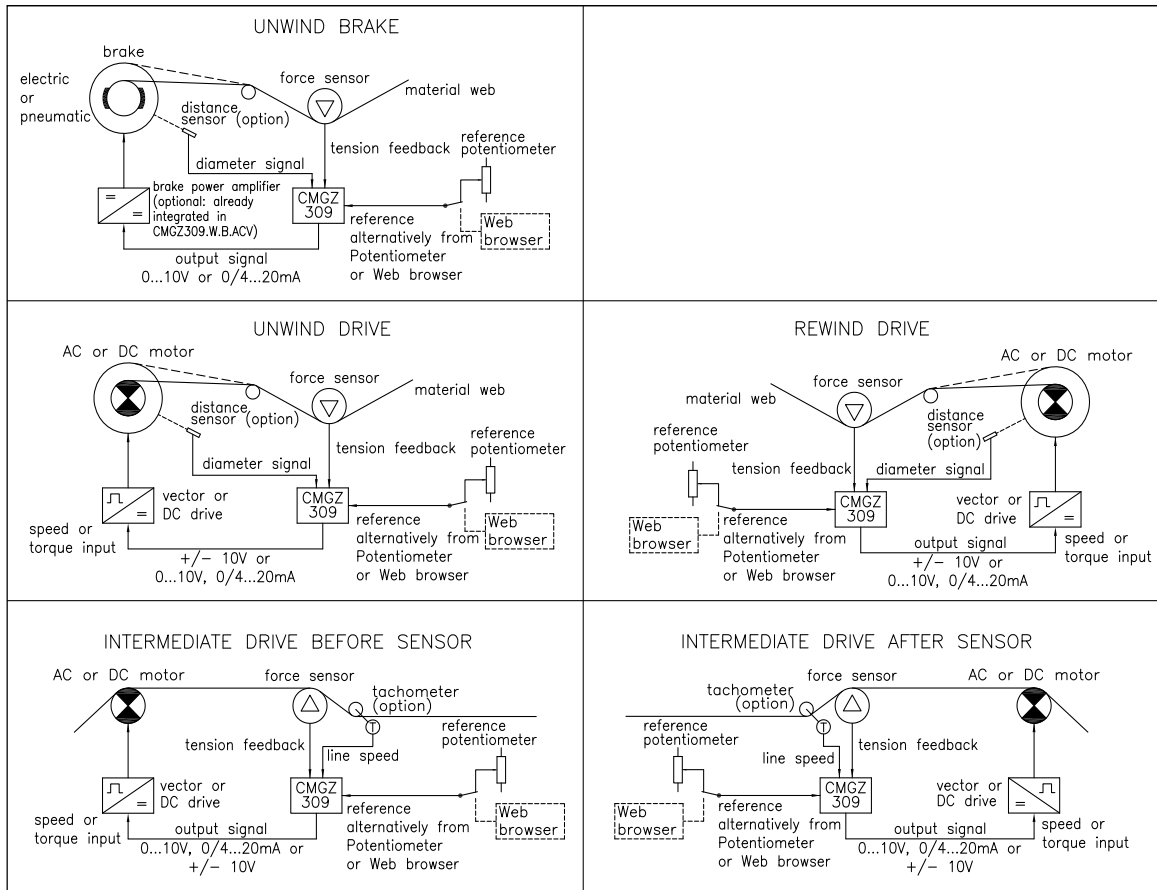

Fig. 3: Schematics of CMGZ309 applications
The EtherNet/IP interface is used in the CMGZ309.EIP for configuration of the device and transmission of production relevant parameters over Ethernet (e.g. Reference, Feedback value, Alarm control error etc.) Furthermore controller status information can be exchanged with and displayed on the machine control panel allowing a remote control of the device. The control loop is usually realized via the analogue outputs (see Fig. 3) but in principle it is also possible to control over the EtherNet/IP field bus.
The CMGZ309 is a versatile tension controller. Whether unwind brake, unwind drive, intermediate drive, or rewinding drive the controller can be configured to handle effectively the controlling tasks. **Fig. 3:** shows the most common controlling applications:
- Application (unwind brake or drive, rewinding drive etc. (see **Fig.3**))
Hardware access via screw terminals (see Fig. 3 and 4)